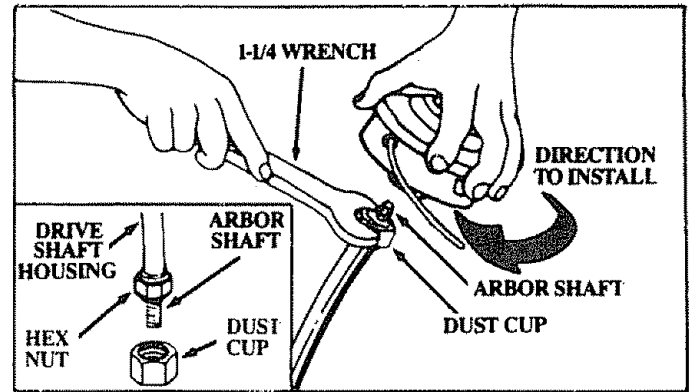

Figure 8
#### 4. TRIMMER HEAD – Figures 8 & 9
- Place the Dust Cup on the Drive Shaft Housing over the hex nut that is assembled on the Arbor Shaft. Figure 8 (inset).
- Hold the Dust Cup with a Wrench to keep the Arbor Shaft from turning and tighten head securely. Figure 8.
Failure to install the shield in the position shown in Figures 8 and 11 can result in serious injury to the operator. The length of the shield must be aligned with the length of the drive shaft housing. Direct the widest part of the shield toward the engine.